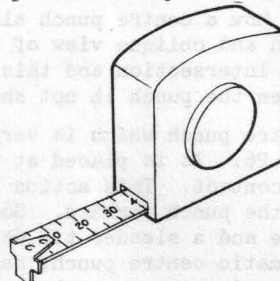

FIG. 23. RETRACTABLE STEEL TAPE.
5.7 FLEXIBLE STEEL TAPE. The flexible steel tape is usually several times longer than steel rules and for this reason allows longer distances to be measured more quickly and with greater accuracy. Fig. 23 shows a typical steel tape retracted into its housing. When required the tape is simply drawn out to the desired length and in many cases it may be retracted by pressing a button on the housing. A hook is fitted on the end of the tape to enable a single handed operation when measuring from an edge.